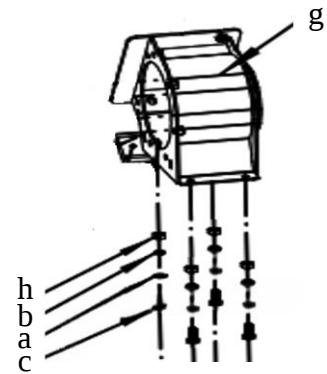

Fig. 3c
- Secure the chipping chamber using the provided lock nuts (h), spring washers (b), flat washers (a), and hex bolts (c). Refer to Fig. 3c.